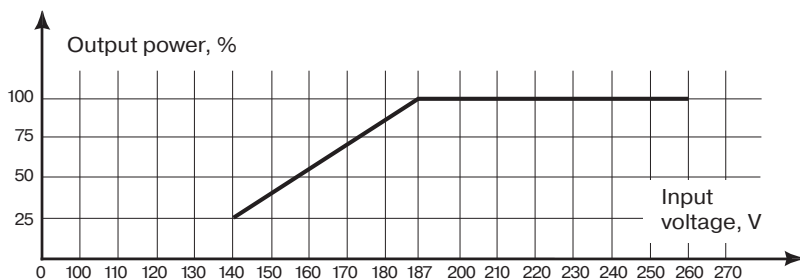

Fig. 5.
**Attention!** When choosing an AVR, it is necessary to consider that reduction of input voltage increases value of input current, which means that maximum power of AVR is reduced too! Such dependence is shown in the graph (Fig.5).